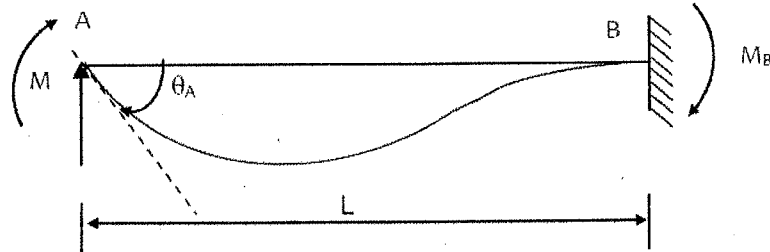

Figure Q3a
- (i) Beam AB is simply supported at A and fixed at B (see Figure Q3a). If a moment  $M$  is applied at Point A (i.e.  $M_A = M$ ), show that  $M_B = M/2$  ( $M_B$  is the moment carried over to the fixed support B). Flexural rigidity of the beam is  $EI$ . [5 Marks]